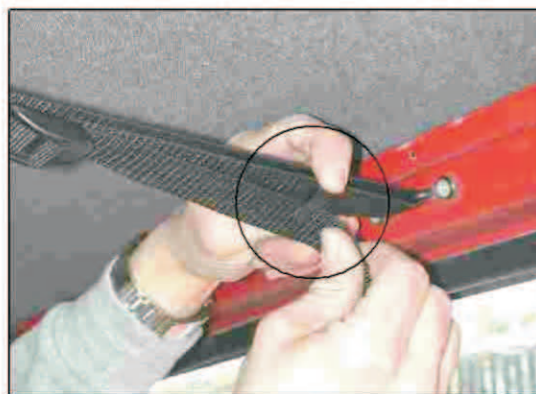

Figure 24
12. Once the Center Roof Strap is securely tighten, fasten the loose strap using the included Strap Clamp (Figure 24). **NOTE:** Failure to Clamp down the loose Roof Strap may result in obstruction of view during travel.